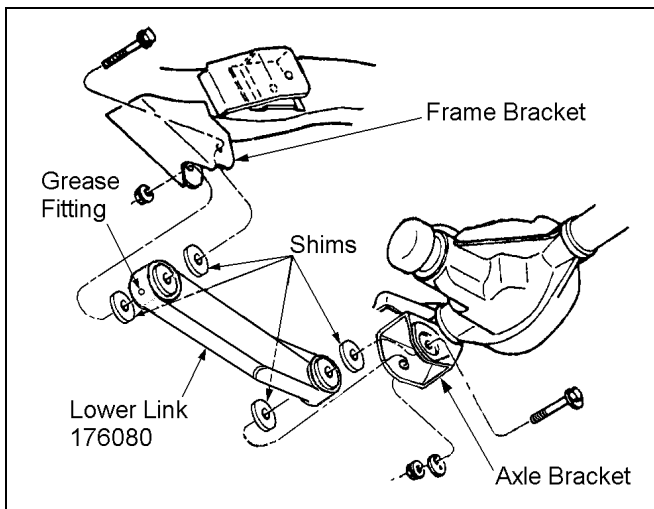

Figure 6
5) ☒ Install new Rancho lower link 176080, along with four shims from kit 860070, to the frame and axle brackets as shown in figure 6. Use original hardware but do not tighten.